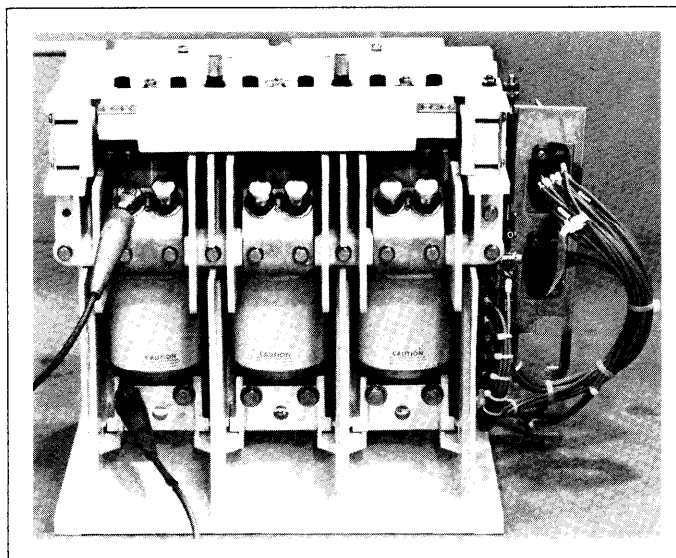

Figure 15. Testing the vacuum interrupter.
1. With the contactor in the open position connect the test leads to the contactor power terminals as shown in Figure 15. Apply 20-kV rms, 60-Hertz power for 400 ampere and 800 ampere contactors, and hold for a minimum of five seconds.